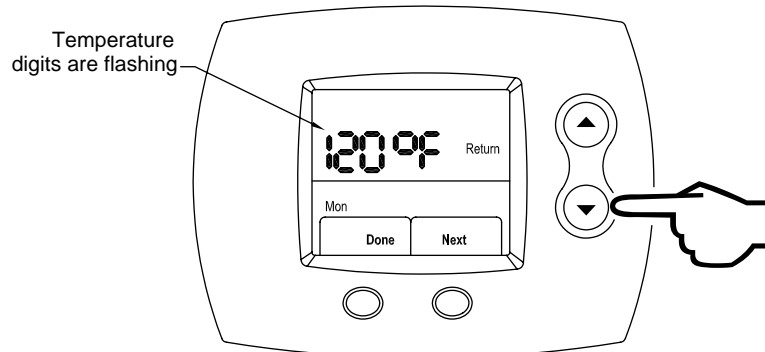

Figure 94
Step 20: Using the **UP** (increase water temperature) or **DOWN** (decrease water temperature) buttons, select the Return period desired water temperature. This is shown in Figure 94.